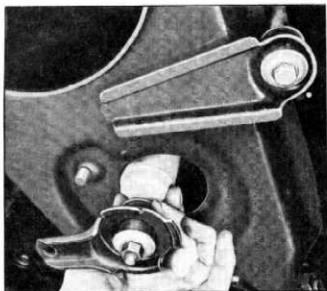

Fig. 6—Removing Front Shock Absorber
2. Remove nut and lockwasher from special bolt, retaining shock absorber lower mounting bracket to lower control arm, and pull shock absorber assembly and mounting bracket out bottom of spring housing (fig. 6).